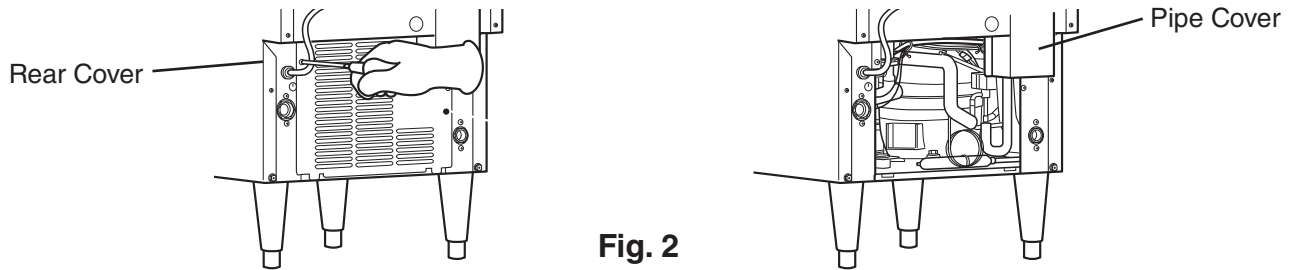

Fig. 2
- 2) Access the rear of the icemaker and remove the rear cover and pipe cover. See Fig. 2.